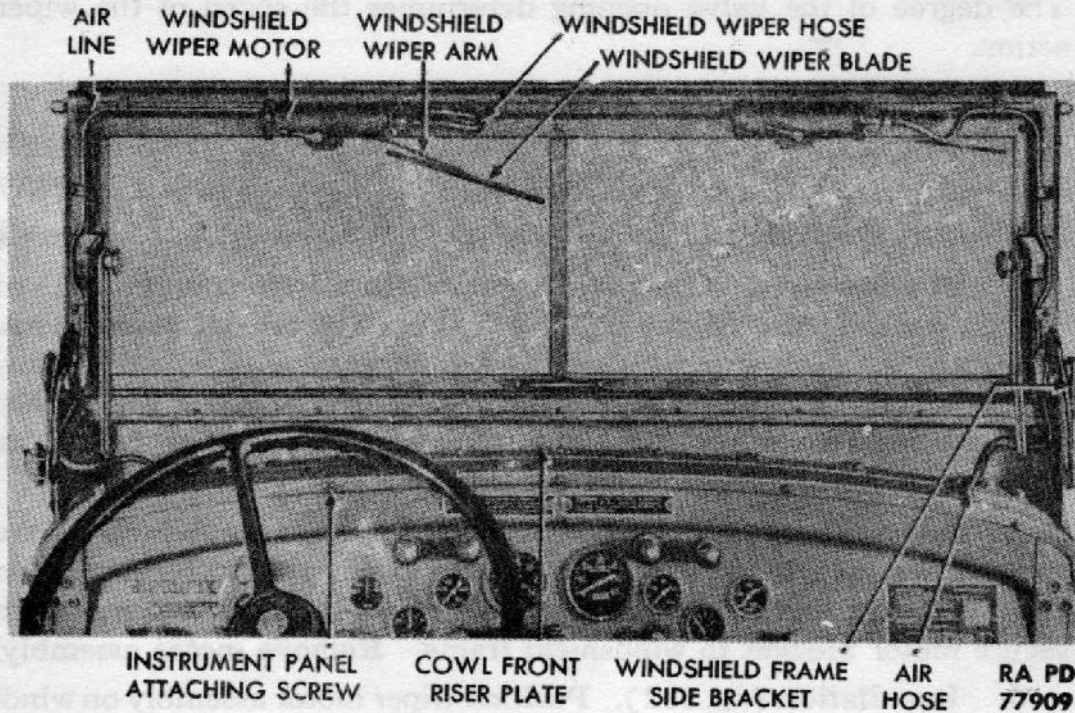

Figure 132 - Windshield Installed
(1) **DESCRIPTION** (fig. 132). Two wipers are mounted at top center of windshields—one on each side. The motor of each is supported by a bracket attached to inside top of windshield frame. Power of motor is transmitted through a shaft extending from motor to wiper arm outside windshield. A removable blade is attached to end of each arm. The wiper motors are individually air-operated. They are controlled by two valves attached to the instrument panel (fig. 4). Opening the valves permits air from air brake system to operate the motors.
c. Removal (fig. 132). Disconnect hose from air line. Remove the arm nut which secures wiper arm to motor shaft. Remove arm and blade as a unit. Remove the two screws and lock washers which secure motor bracket to windshield frame. Remove motor assembly.
d. Installation (fig. 132). Position wiper motor assembly on windshield frame. Secure with the two screws and lock washers. Position wiper arm on motor shaft. Install lock washer and nut. Connect hose to tube.
(1) **DESCRIPTION (fig. 132).** The windshield is attached at the top rear of the cowl assembly. Manually operated quadrant arms permit varied degrees of opening.
b. Removal (fig. 132). Disconnect air hose front tube at each side of windshield. Remove the five hex cap screws and lock washers which secure each of the windshield frame side brackets to cowl. Remove the two bolts, nuts, and lock washers which secure each bracket to cowl front riser plate. Remove windshield assembly.
c. Installation (fig. 132). Position windshield assembly on cowl. Secure brackets to cowl with the 10 hex cap screws and lock washers. Install the two bolts, lock washers, and nuts which secure brackets to cowl front riser plate.